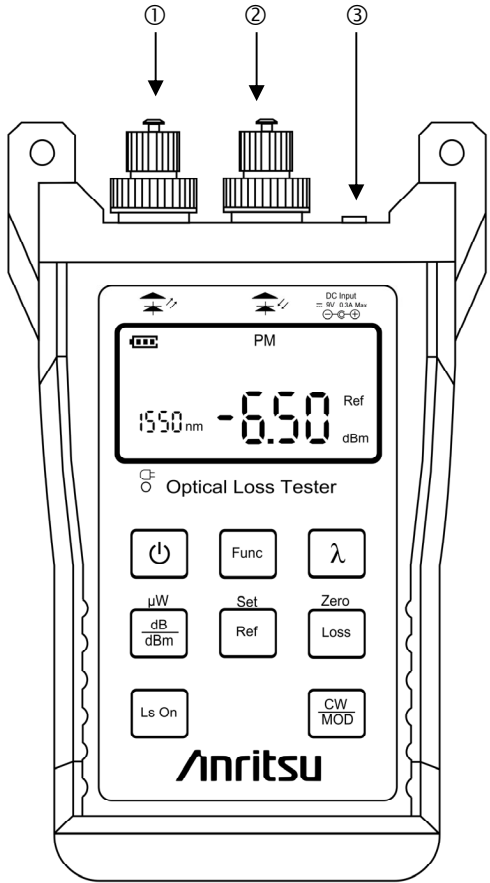

Figure 2 CMA5 Series Optical Loss Tester Operating Controls
1. Output Connector (Laser Aperture) (See Figure 2-①.) Optical output port (CMA5 Series Optical Loss Tester is supplied with one connector adapter (FC, SC, or ST) as a standard accessory).
2. Input Connector (Laser Detection) (See Figure 2-②.) Optical input port (CMA5 Series Optical Loss Tester is supplied with one connector adapter (FC, SC, or ST) as a standard accessory).
3. External Power Jack (See Figure 2-③.) Connect the supplied AC adapter to this external power
1. This procedure requires two patch cords and an in-line adapter. Refer to figure 2 and attach one patch cord to the output connector and the other patch cord to the input connector of the unit. Use the in-line adapter to connect the two patch cords together.